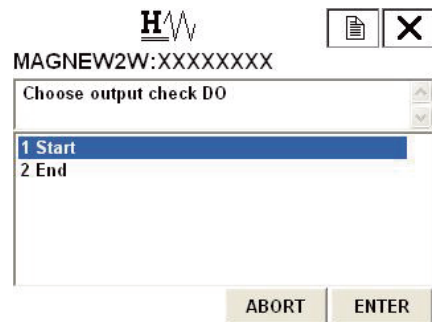

Fig. 7-88.
2. Fig. 7-88. will then appear. Choose START to start fixed value of contact output, and then press F4 (ENTER)